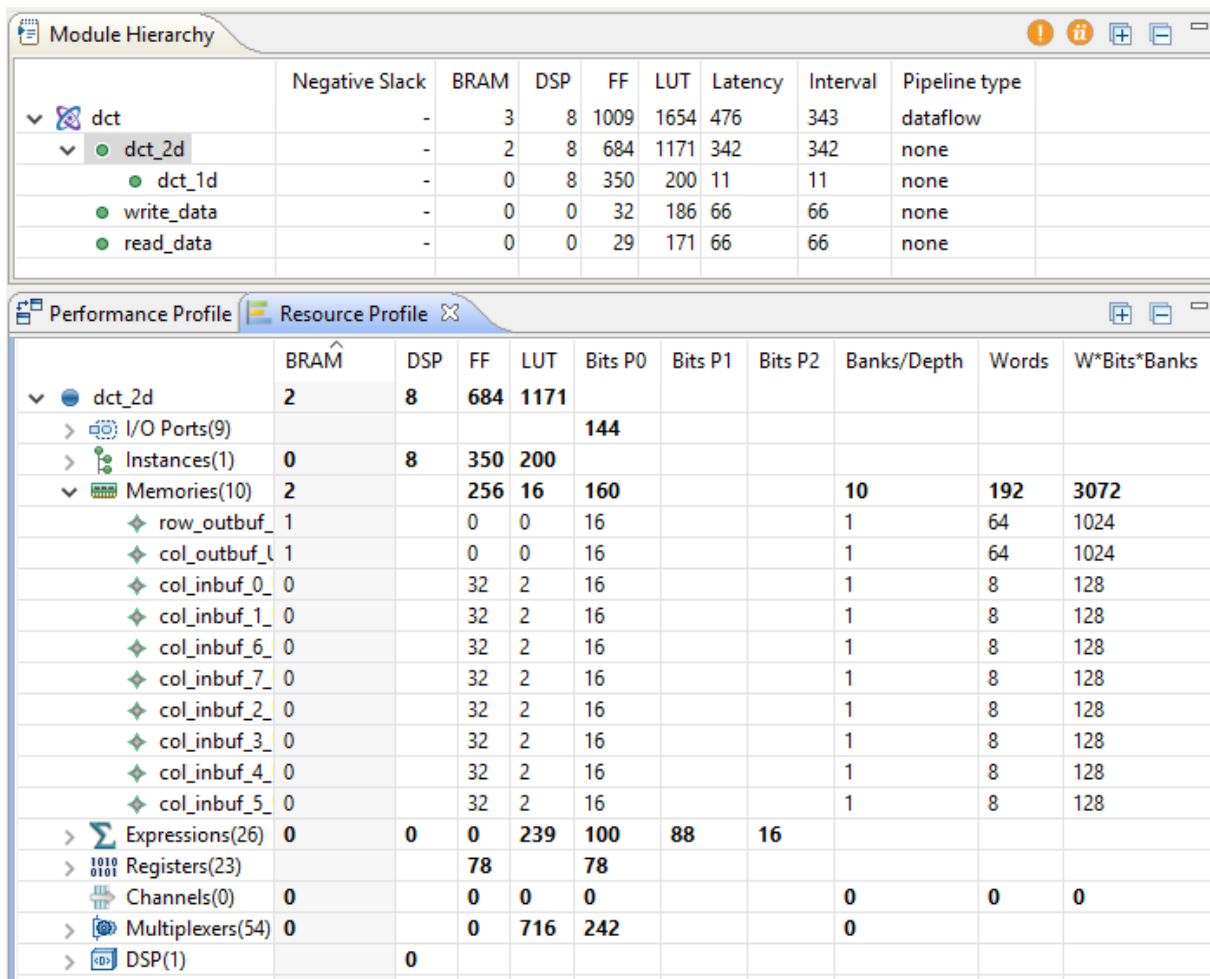

Figure 6-31: DCT Resource Profile
Because the `dct_2d` block is selected in the Module Hierarchy the Performance Profile shows the details for this block. Figure 6-31 shows the interval is the same as the latency, so none of these blocks operate in parallel.
11. Expand the memories to see the view in Figure 6-31.